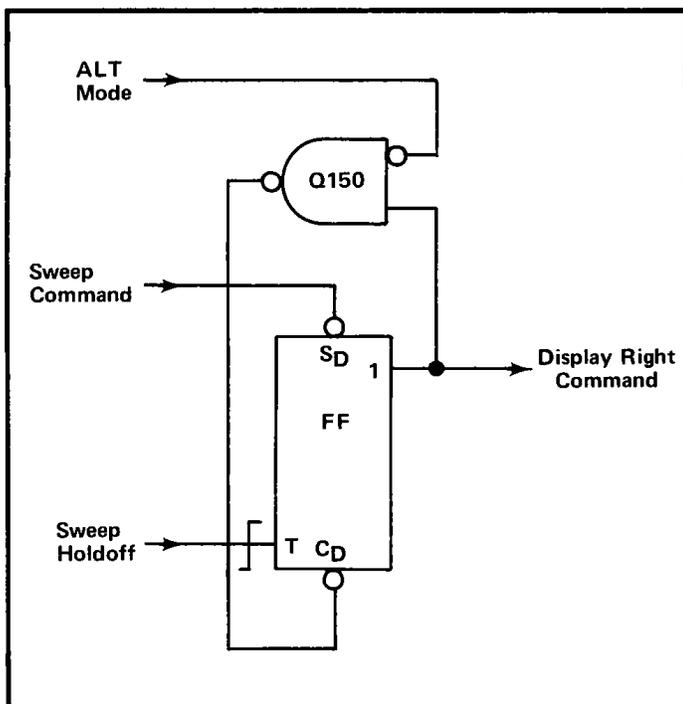

Fig. 3-12. Logic diagram of Vertical Binary stage.
The Vertical Binary stage consists of integrated circuit U156A and transistor Q150. U156A is a D-type flip-flop with direct-set and direct-clear inputs (see Table 3-1 for operating details). The connection between the "0" output and the data (D) input enables this flip-flop to operate in the triggered mode. A logic diagram of the Vertical Binary stage is shown in Fig. 3-12.